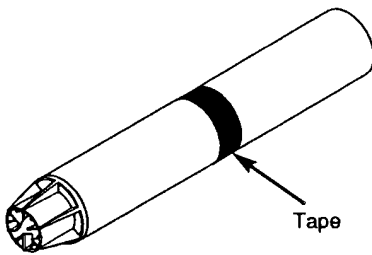

Fig. 27a
7. Tape the sections together with the tape provided ensuring a good seal is made (Fig. 27a).